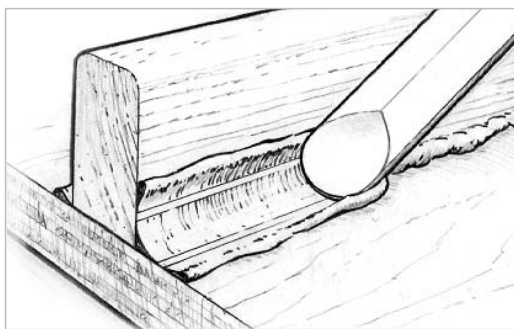

Figure 9-12 Shape and smooth the fillet with a rounded tool.
2. Shape and smooth the squeezed-out thick epoxy into a fillet by drawing a rounded filleting tool (mixing stick) along the joint, dragging excess material ahead of the tool and leaving a smooth cove-shaped fillet bordered on each side by a clean margin. Some excess filleting material will remain outside of the margin (*Figure 9-12*). Use the excess material to refill any voids. Smooth the fillet until you are satisfied with its appearance. A mixing stick will leave a fillet with about a $\frac{3}{8}$ " radius. For larger fillets, an 808 Plastic Squeegee, cut to shape or bent to the desired radius, works well.